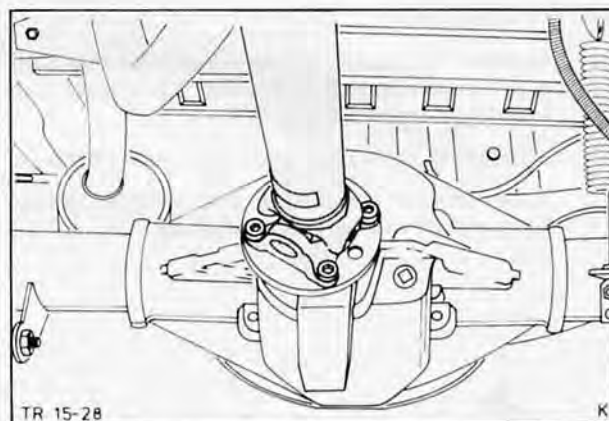

Fig. 21. Fix driveshaft to drive pinion flange
14. Fix driveshaft to drive pinion flange, Fig. 21.